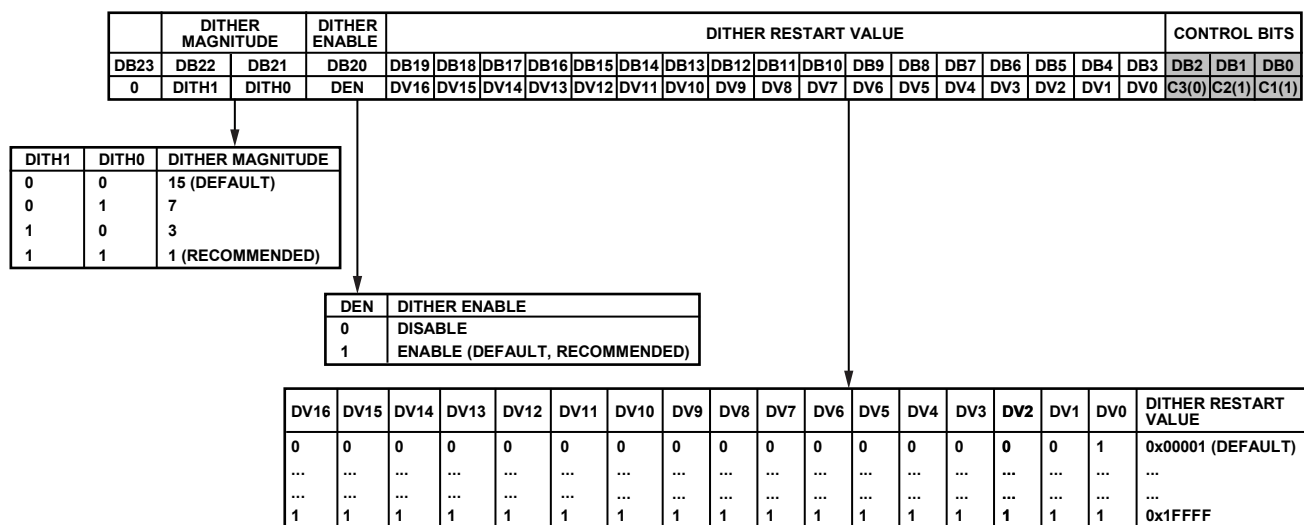

Figure 44. Register 3— Σ - Δ Modulator Dither Control Register Map
With Register 3, Bits[2:0] set to 011, the on-chip Σ - Δ modulator dither control register is programmed as shown in Figure 44. The recommended and default setting for dither enable is enabled (1).